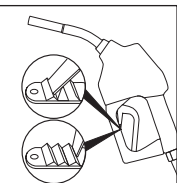

Figure 15/Illustración 15
- Check for broken trigger springs and replace nozzle, if necessary. (See Figure 15)